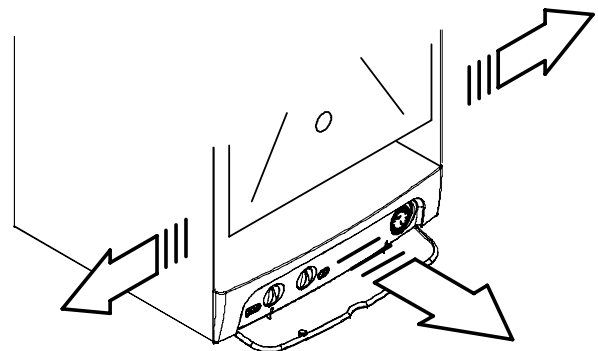

Fig. 6.11
- 4 Remove the side panels or move the lower part of the side panels as indicated in Fig. 6.11 and pull the control panel.